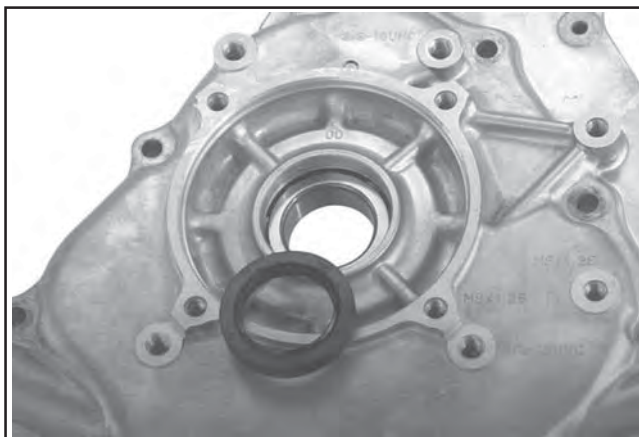

Figure 9-80. Removed Crankshaft Seal.
6. Remove the crankshaft seal. See Figure 9-80.